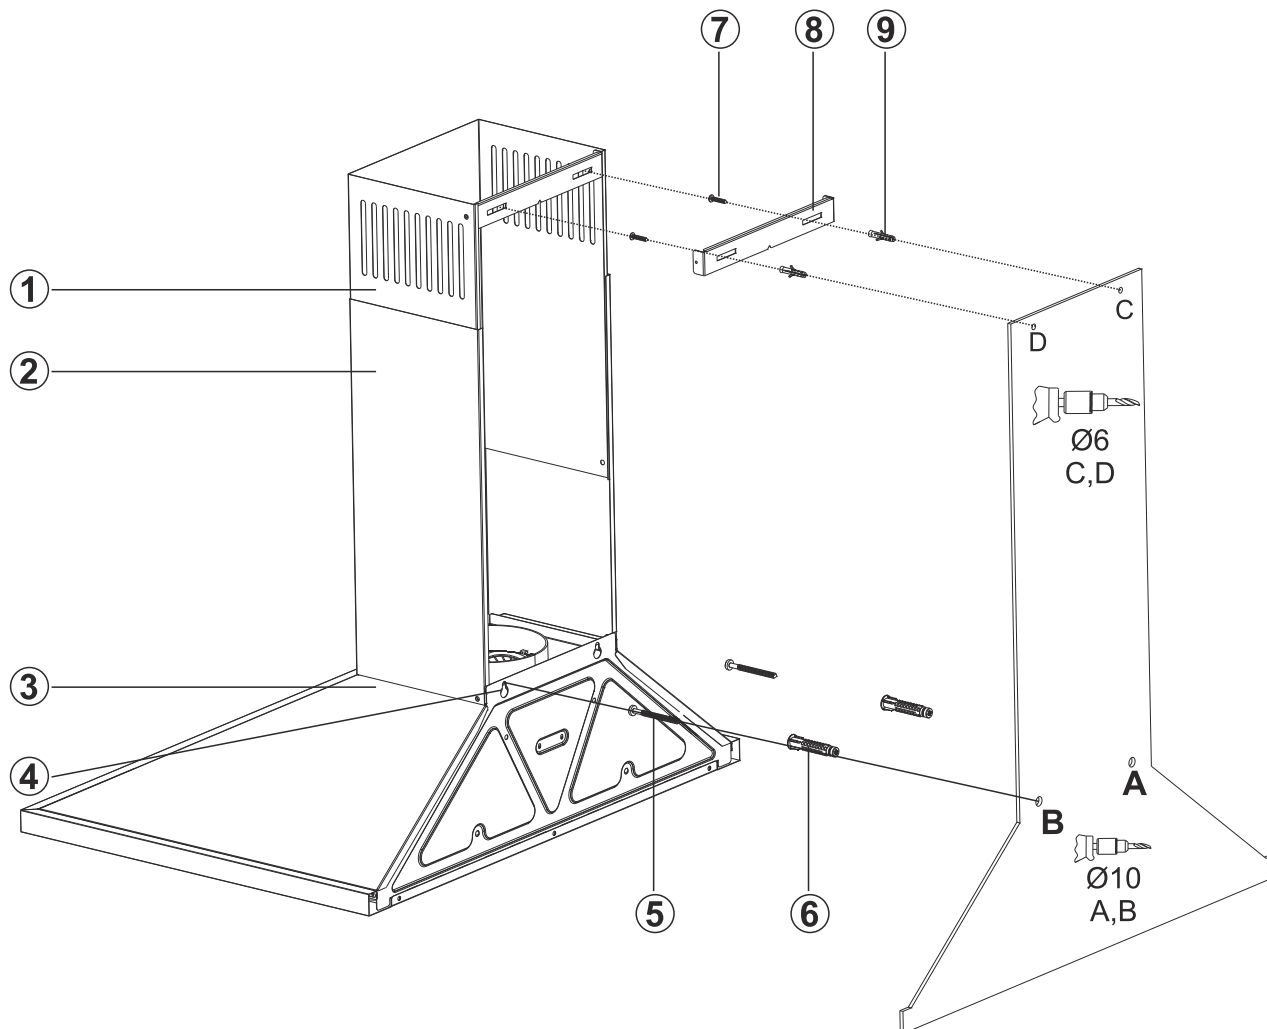

Fig. 11: INSTALLATION AND PARTS
- Check the minimum and maximum distance according to work-bench and drill points A, B.(Fig. 11)
- Place Ø10mm pins in drilled A, B points and screw the screws to A+B points leaving 5 mm gap between screw head and the wall.(Fig. 11)